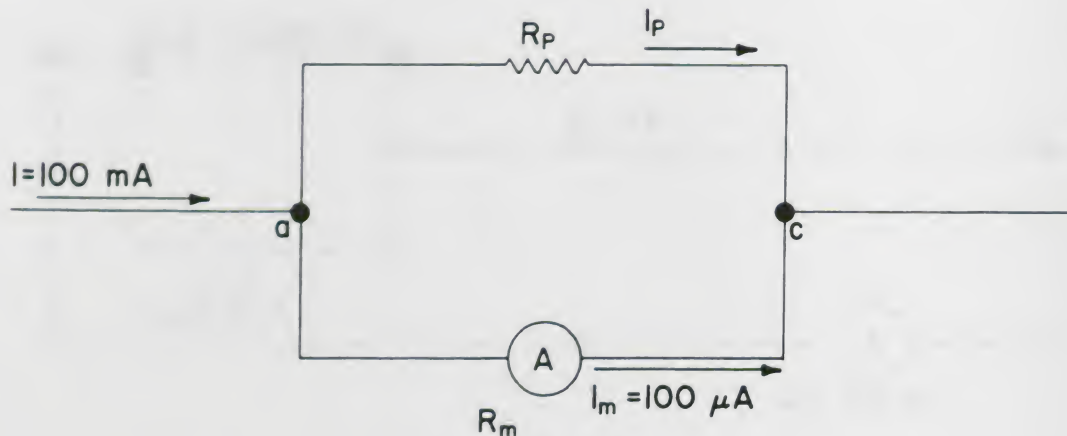

Figure 49.
2. Draw a circuit diagram as in Figure 49.  $I$  is the total current,  $I_p$  and  $I_m$  are the branch currents.